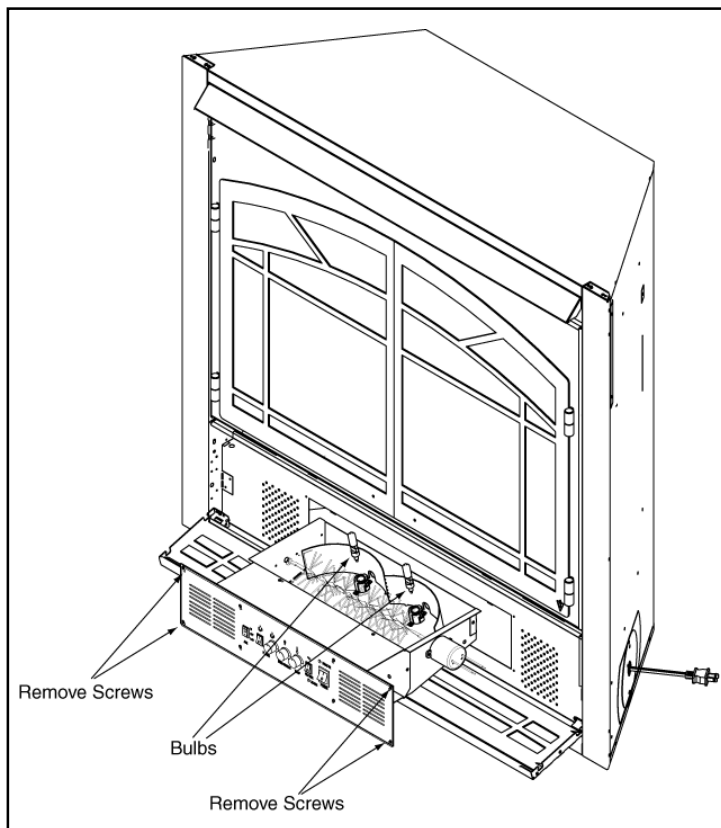

Figure 19
- Remove the four outer screws. See Figure 19.